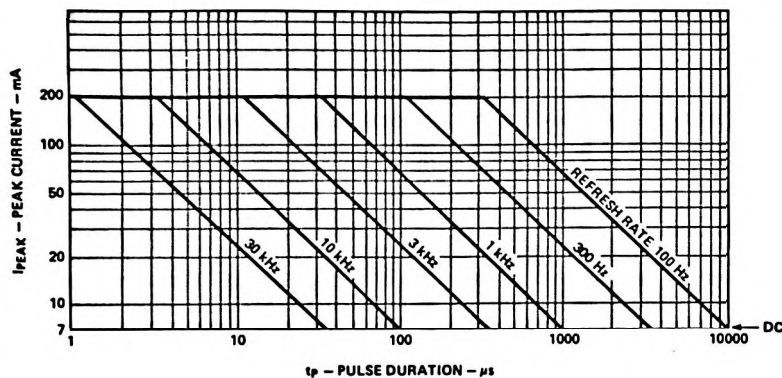

Figure 1. Maximum Allowed Peak Current vs. Pulse Duration. Derate derived operating conditions above $T_A = 50^\circ\text{C}$ using Figure 2.
- Maximum allowed drive conditions for strobed operation are derived from Figures 1 and 2. See electrical section of operational considerations.